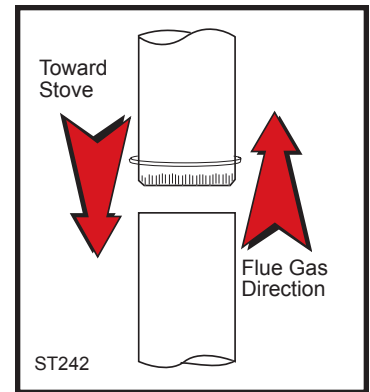
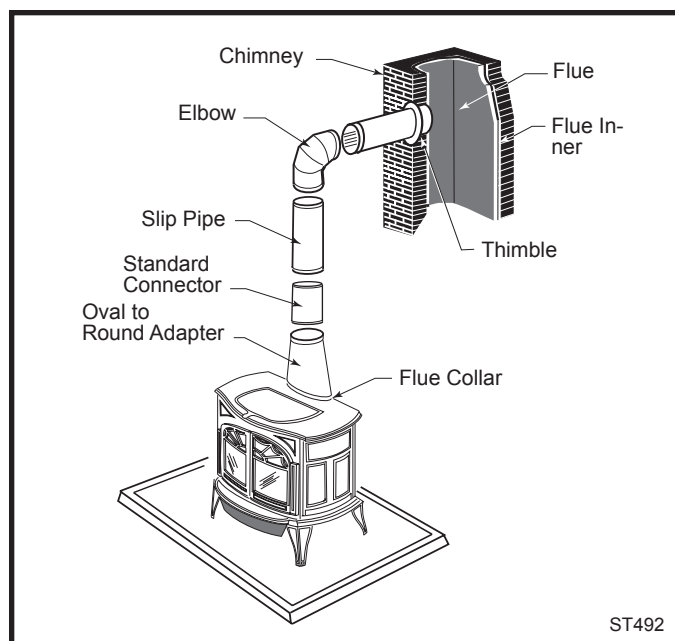

Fig. 5 Chimney connector.
Fig. 6 An exploded view of the chimney connection in a free-standing masonry installation.
- Begin assembly at the flue collar of the stove. Insert the first crimped end into the stove's flue collar, and keep each crimped end pointing toward the stove. (Fig. 5) Using the holes in the flue collar as guides, drill 1/8" (3 mm) holes in the bottom of the first section of chimney connector and secure it to the flue collar with three #10 x 1/2" sheet metal screws. Lift off the griddle, and shield the stove's surface between the griddle opening and the front of the flue collar to protect the finish when you drill the front hole.
- Fasten each joint between sections of chimney connector, including telescoping joints, with at least three (3) sheet metal screws. The pre-drilled holes in the top of each section of chimney connector serve as guides when you drill 1/8" (3 mm) holes in the bottom of the next section.
- Fasten the chimney connector to the chimney. Instructions for various installations follow. Figure 6 illustrates the general layout of chimney connector parts.